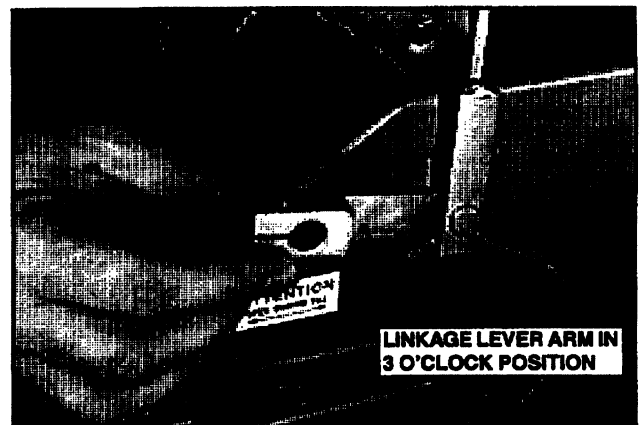

FIGURE 6.20A
19. While holding the Governor Lever down against the Engine Low Idle position, locate the linkage lever arm onto the stepping motor splined shaft at approximately 3 o'clock position and secure the Ball Joint to the governor arm. See Figure 6.20A.